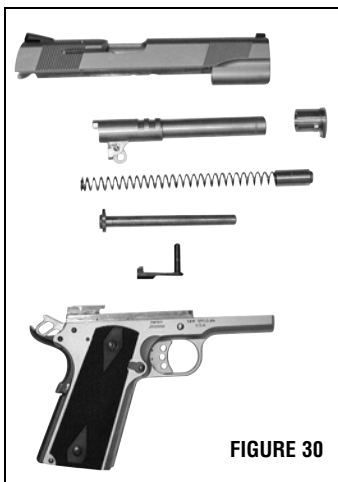

FIGURE 30
- Figure 30 shows the parts you will have after field stripping a pistol that uses a barrel bushing.